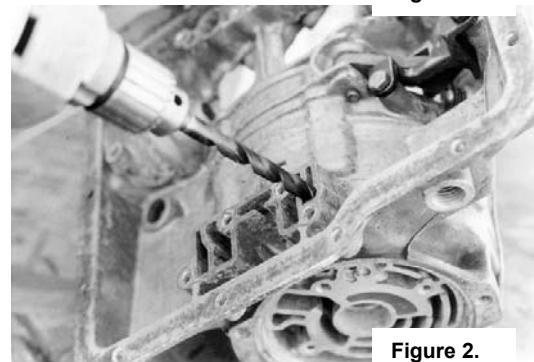

Figure 2.
2. Now drill 5/16" from the bottom port until you intersect the previously drilled a hole (Figure 2.)